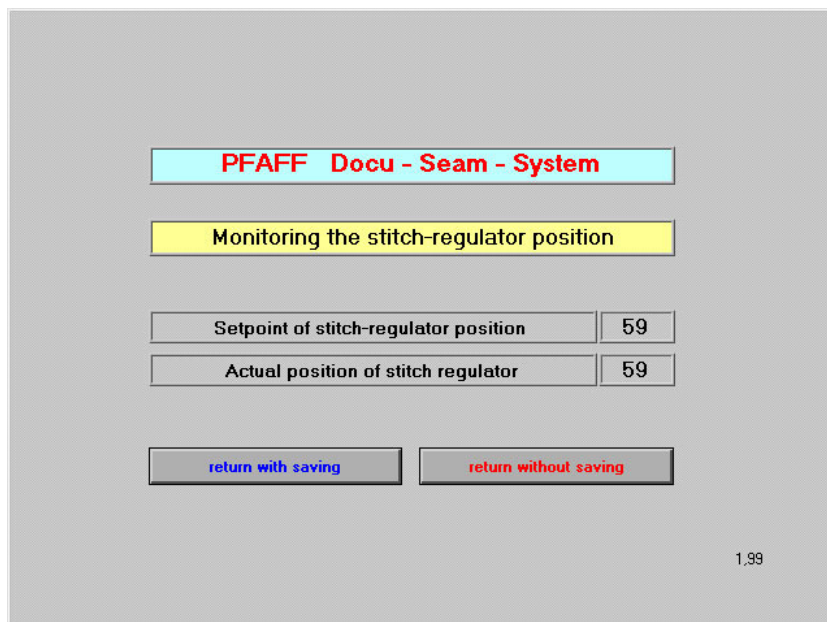

Fig. 3 - 16
- Click on the key **Stitch regulator**, the panel **Monitoring the Stitch-regulator position** opens (Fig. 3- 16).